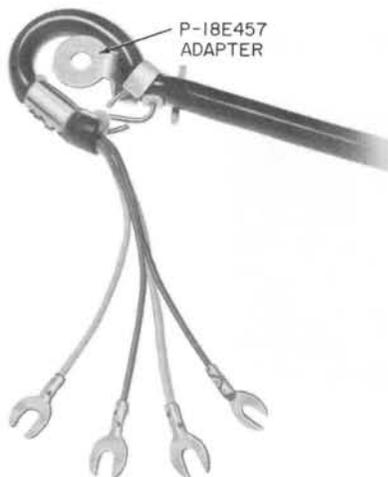

Fig. 1—D4BP Cord With Adapter
2.11 The early D3BU or D4BP mounting cord is equipped with a P-18E457 adapter which is intended for use as a universal fastener. Fig. 1 through 7 show some of the suggested uses of these fasteners. The current D3BU or D4BP cord is equipped with a flat eyelet stayband at the connecting block end (Fig. 2).